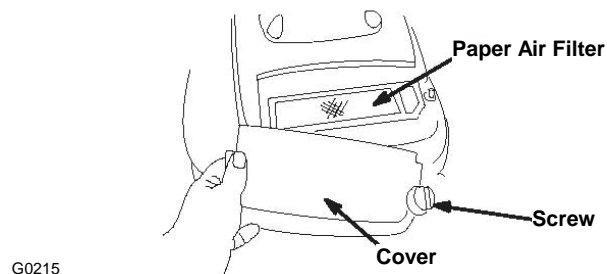

FIGURE 12
- Remove the screw that secures the air cleaner cover (Figure 12.)
- Remove the cover and clean it thoroughly (Figure 12).